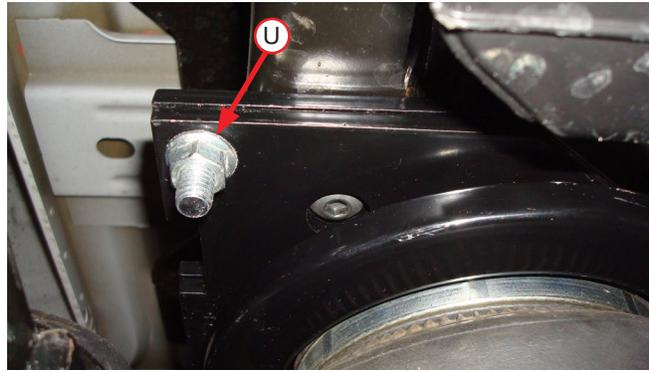

Fig. 36
4. Before proceeding, ensure the 90-degree fittings are pointing inboard toward the center of the vehicle. While raising the axle or lowering the body of the vehicle, align the previously installed upper frame bracket carriage bolts (including the one on the air spring bracket) with the air spring bracket/frame brace holes so the carriage bolts protrude. Cap all the carriage bolts with the 3/8" Serrated flange lock nuts (U) (Fig. 36). Snug the bolts down first, then torque to 31 lb.-ft. (42Nm).